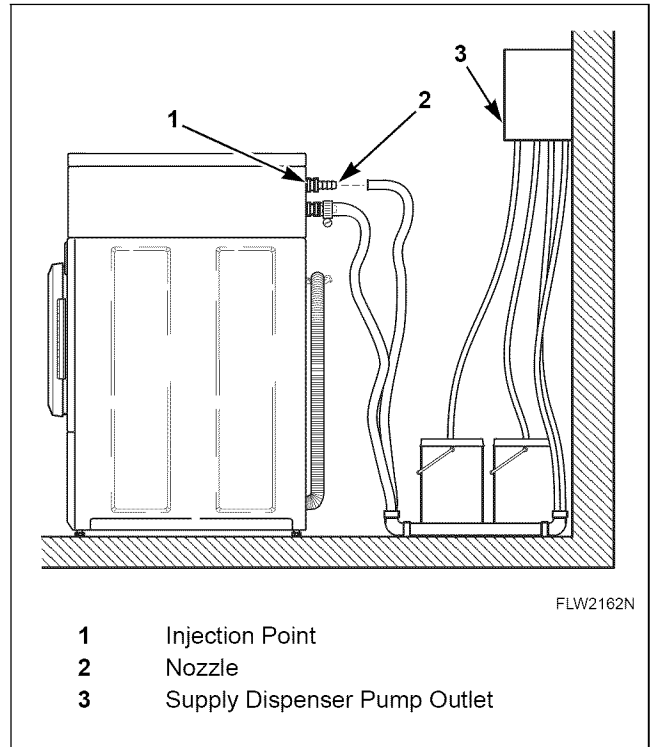

Figure 11
2. Attach nozzles to rear of machine. Connection point located on cabinet, above water mixing valve. Refer to *Figure 11*.
3. Connect supply hoses to nozzles and secure with hose clamps (obtain locally). Refer to *Figure 11*.